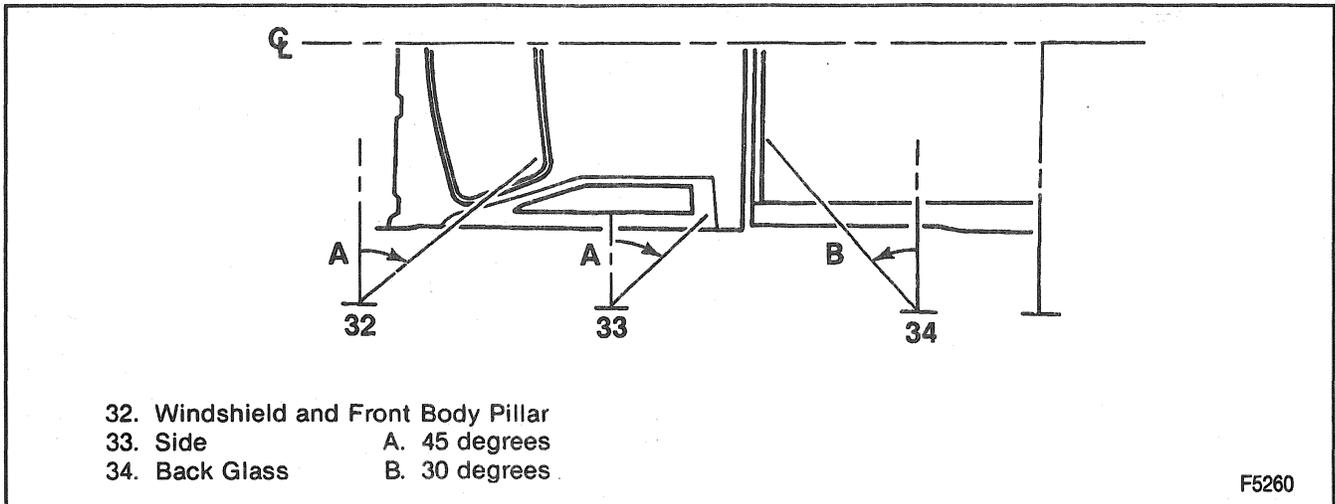

Figure 34—Water Leak Test with Test Stands
4. To check the windshield, the water spray should be aimed 30 degrees down and 45 degrees toward the rear. Aim at the corner of the windshield (Figure 34).